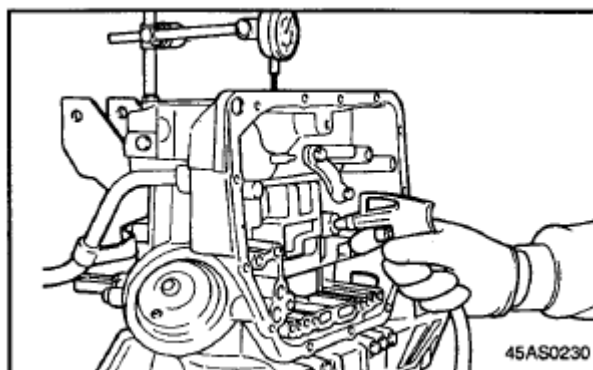

Fig. 58: Pumping Air Using Manual Pump
7. Using a manual pump, pump air (5 kg/cm²) in from the position shown in **Fig. 58**. Read the dial indicator gauge, and select the pressure plate that will provide the standard value.